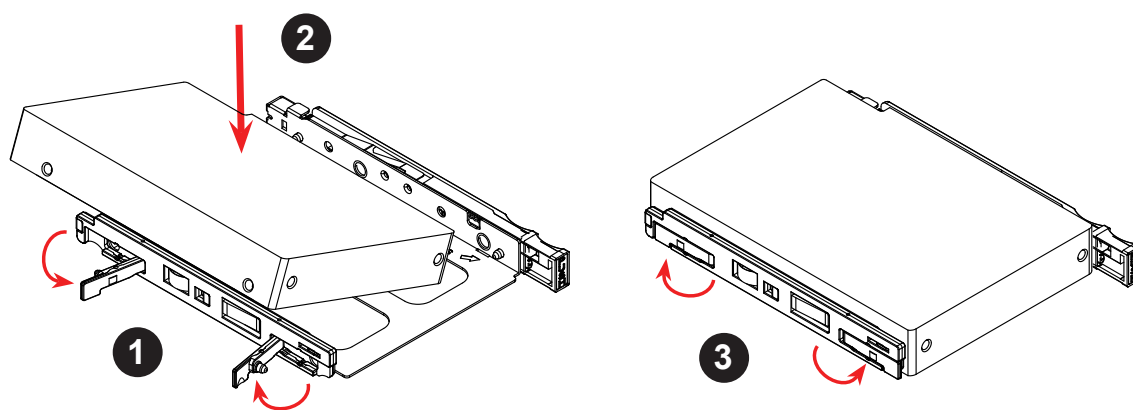

Figure 3-3. Mounting a Drive in a Carrier
2. Insert a drive into the carrier with the PCB side facing down and the connector end toward the rear of the carrier. Insert the drive at an angle as shown in Figure 3-3. Verify that the mounting holes on the drive align with the mounting holes on the carrier.